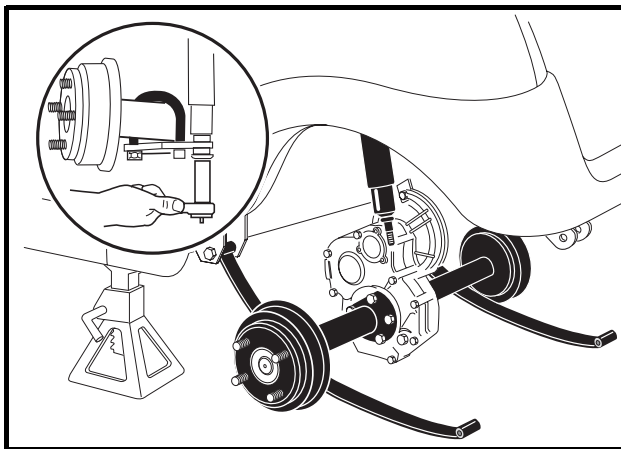

Figure 15b-3 Lower Axle
9. Remove the four bolts that mount the motor to the transaxle (**Figure 15b-24, Page 15b-15**). See following **CAUTION**.